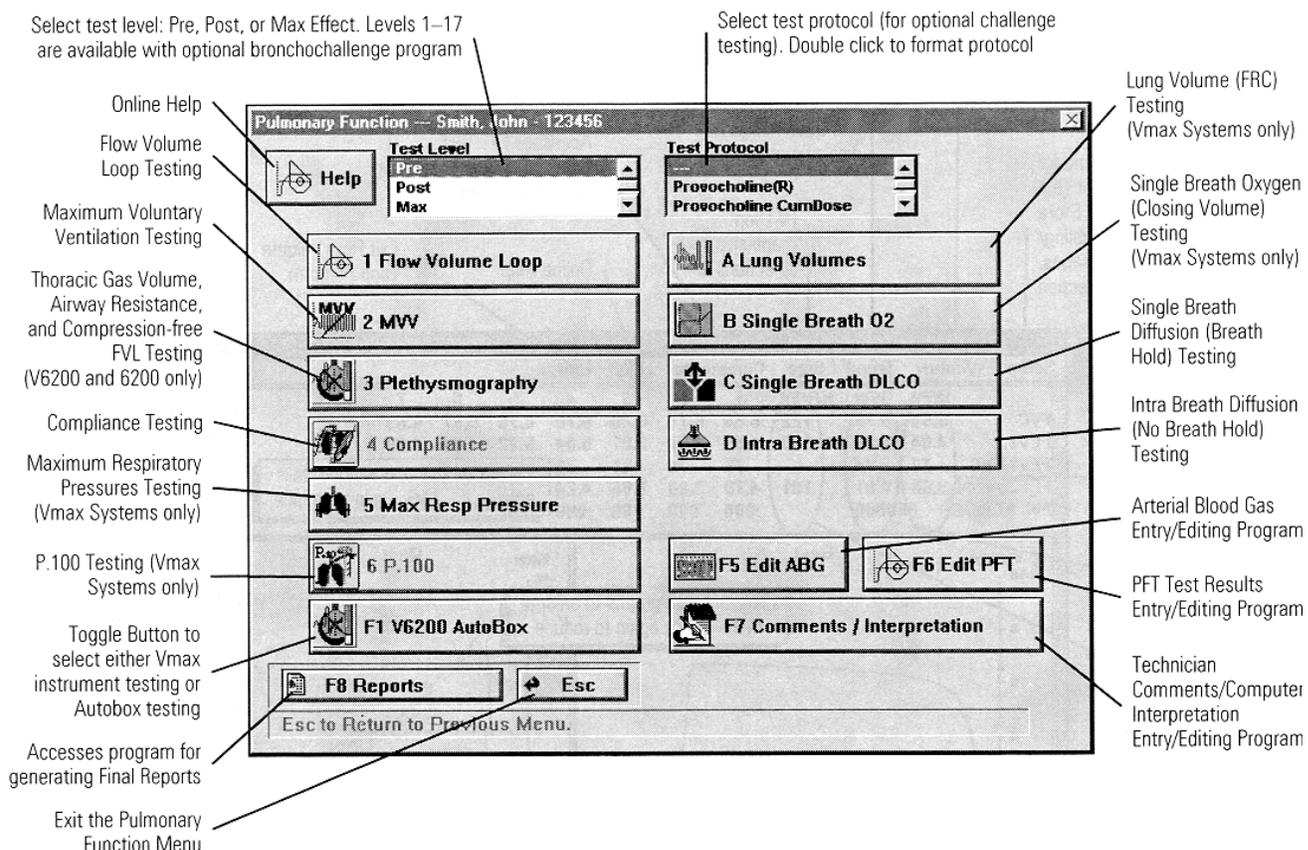
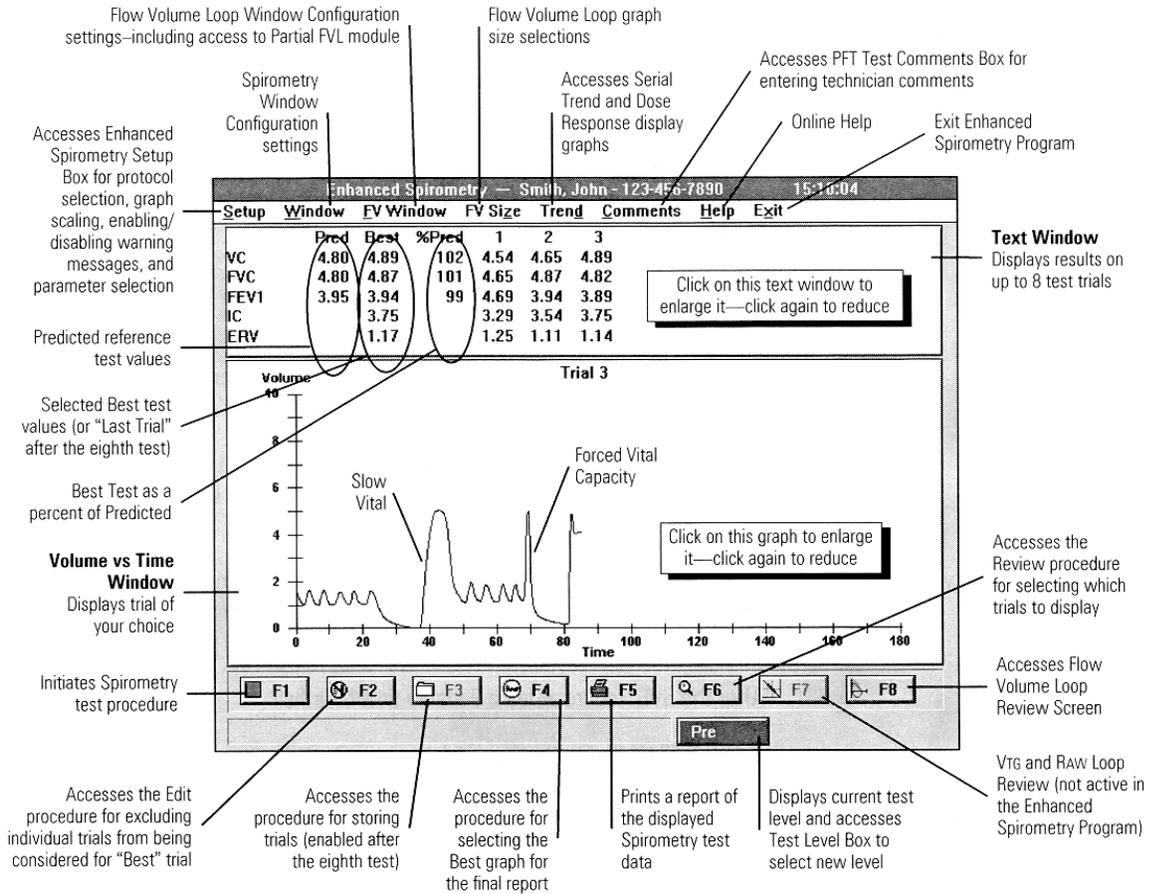

Figure 5-1 – Pulmonary Function Menu
Figure 5-3 – Enhanced Spirometry Test Screen
Select **5 Pulmonary Function** on the **Vmax Program Manager** to enter the Pulmonary Function Program. The **Pulmonary Function** menu will be displayed (Figure 5-1).
1. From the **Pulmonary Function** screen (Figure 5-1) under **Test Level**, select **Pre**, **Post**, or **Level 1–17**.
From the **Pulmonary Function** menu (Figure 5-1), select **Pre**, **Post**, or **Level 1–17** in the **Test Level** list box, select a challenge protocol (“---” = no protocol), and then select **3 Enhanced Spirometry**. The **Enhanced Spirometry Test** screen will be displayed (Figure 5-3).